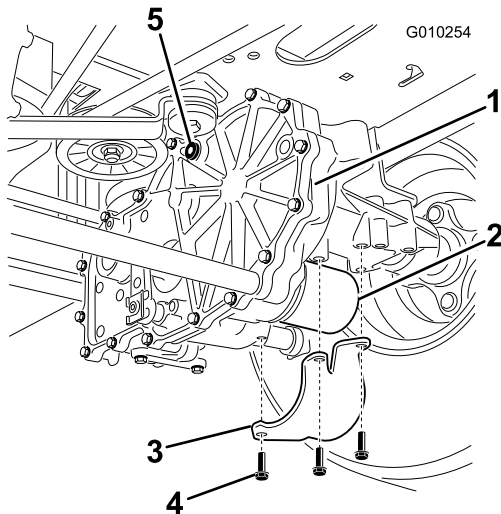

Figure 47
2. Locate the filter and guards on each transaxle drive system (Figure 47). Remove three screws securing the filter guard and guard.